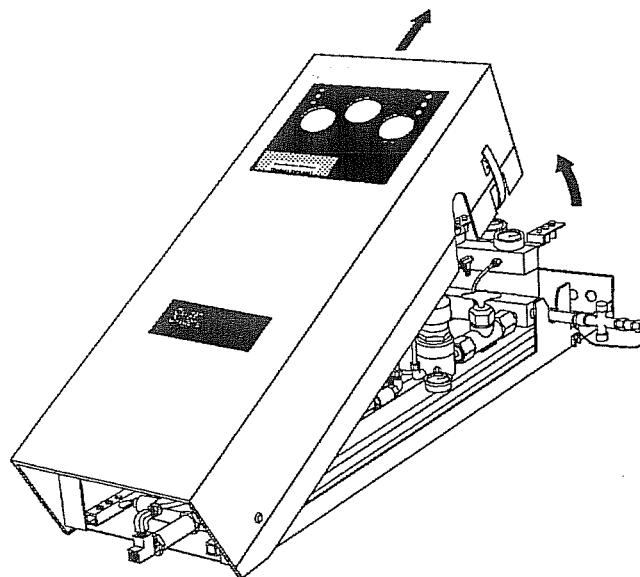

Figure 2-6
4. Remove the manifold cover by raising the top of the manifold cover about one foot and then sliding the cover up and away. (Figure 2-6)